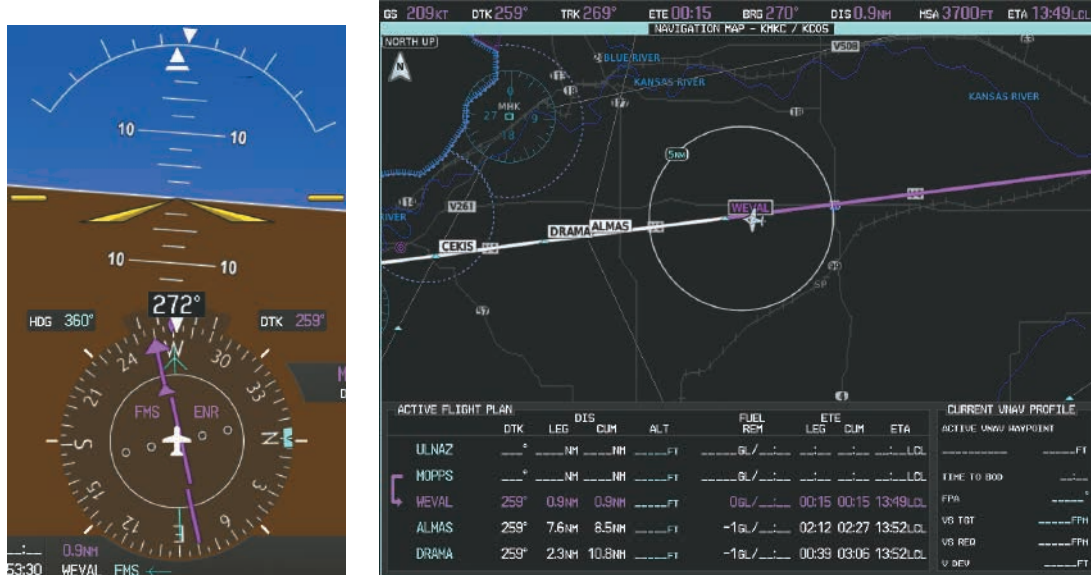

Figure 5-172 Turn on to Active Leg
- 7) As the CDI approaches center, the aircraft turns onto the active leg as seen in Figure 5-172.